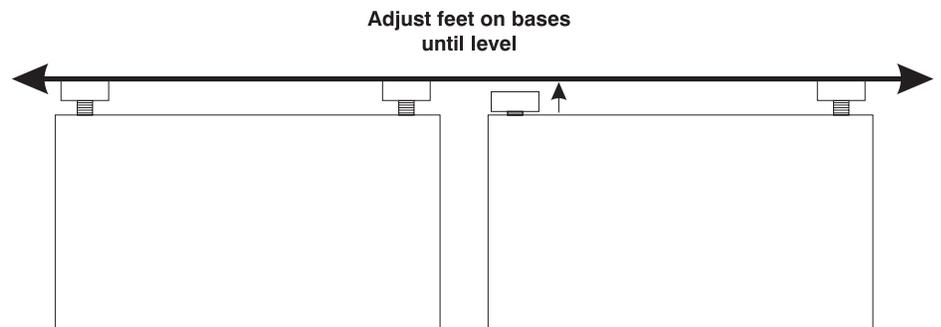

Figure 2.6. Level Base Feet
- 3) Turn bases over so they rest on their top frame and the adjustable feet are facing up. This step allows for easy base adjustment. See Figure 2.6.